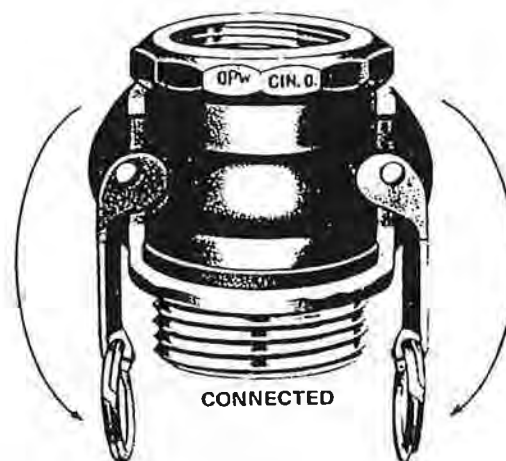

Fig. 5-13. Quick-connect, disconnect coupling.
5.40 Quick-connect, quick-disconnect hose couplings provide flexibility in many industrial process lines where a number of different fluids or dry materials from a single source are to be either blended or routed to different bins, vats, or other containers. The two parts of a quick-connect coupling are shown in Fig. 5-13. One is mounted in a hose, and the other is mounted in a fixed pipeline. The upper fitting (A) has a circular recessed section at the bottom. The element in the lower part (B) has two levers or cams. The lower element slips over the upper one. The cam levers are then pulled down and their inner ends engage the circular recess firmly.